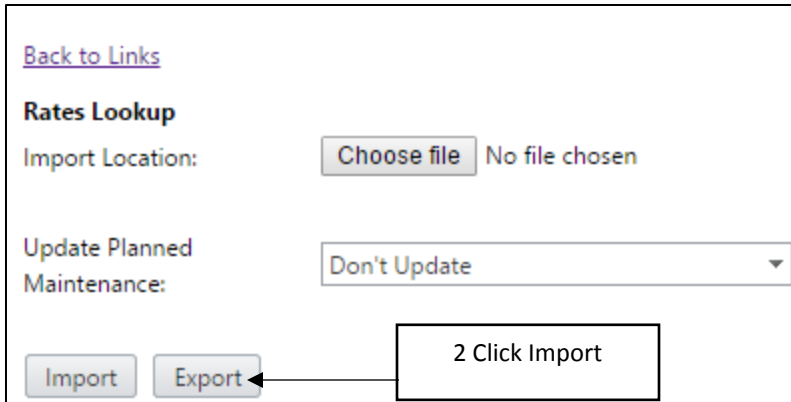

Figure 16.
- 2) To view the existing property rates, click Export then open the spread sheet that is generated. See figure 16.